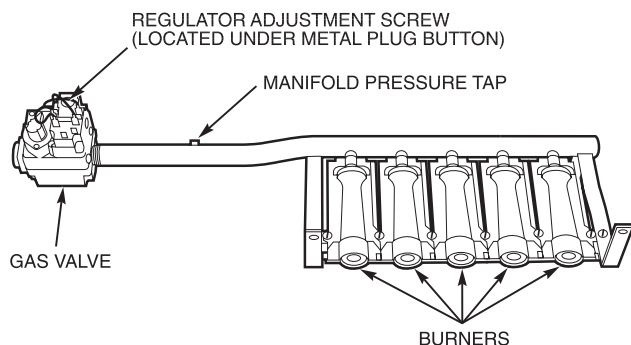

Fig. 45 — Burner Tray Details
1. Remove cover screw over regulator adjustment screw on gas valve. See Fig. 45.
5. Remove cover screw over regulator adjustment screw on gas valve. See Fig. 45.